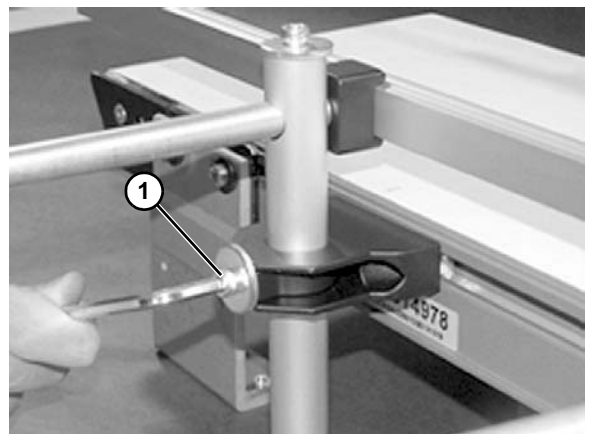

Figure 28
7. Adjust rail height with lower screw (**Figure 28, item 1**).